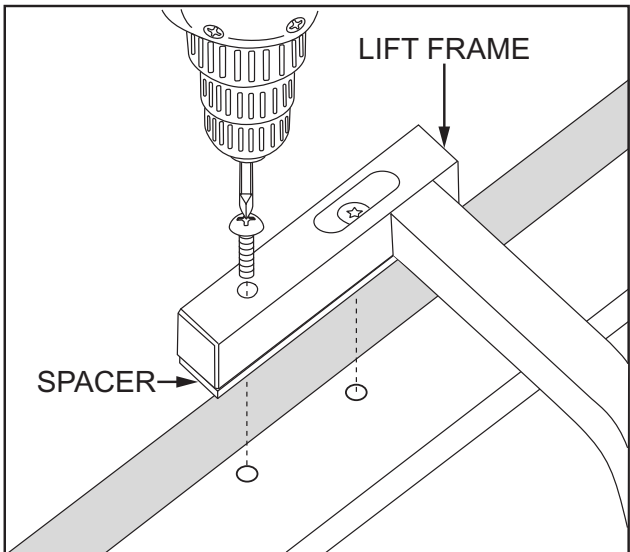

Figure 4. Frame/Bottom Arm Rails
7. Remove the eight (8) screws that attach the frame to the bottom arm rails. Each corner of the frame has a machine bolt and a wood screw. The machine bolts are held by a "T-nut" system. See figure 4.
1. Install the adhesive frame spacers onto the replacement lift frame. See figure 4. Frame spacers help to eliminate mechanical noise in the lift chair.
4. Install the four (4) machine bolts and four (4) wood screws that hold the lifting frame to the wood rails on the bottom of the lift chair. See figure 4.